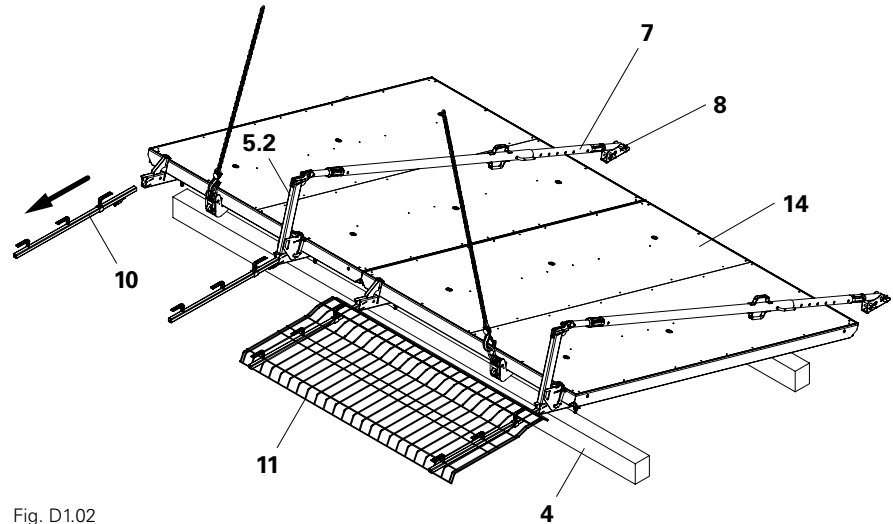
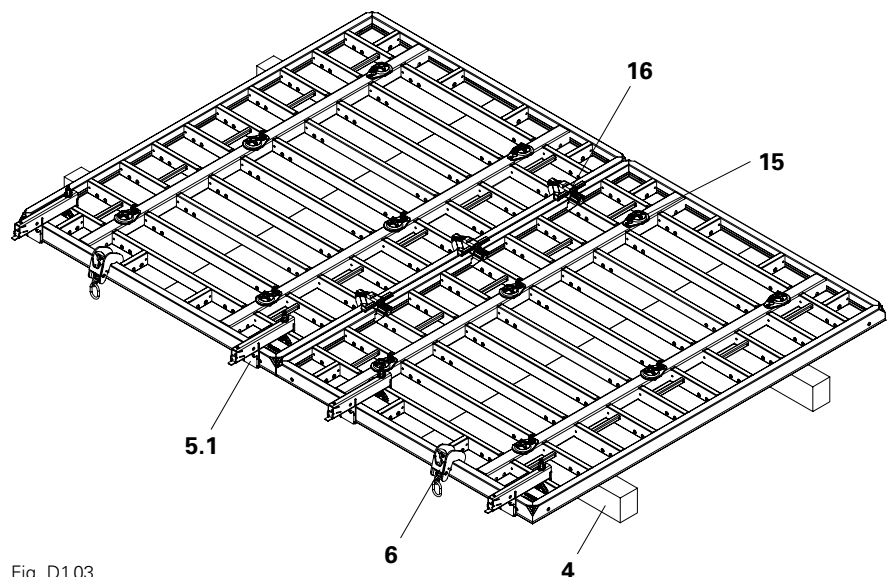

Fig. D1.02
Fig. D1.03
1. Set aside the formwork element (14) and carefully tip back.
2. Lower formwork element (14) to approx. 90 cm. Unhook side mesh barrier (11) and remove the guardrail posts (10).
3. Rest formwork element (14) on square timbers 20/16 cm (4).
- (Fig. D1.02)
1. Remove the push-pull prop (7).
2. Dismantle base plate (8) from push-pull prop (7).
4. Turn formwork element onto form-lining side and support with square timbers 20/16 (4).
5. Remove lifting hook (6), swivel nut MX 15 (15) and, if necessary, the alignment coupler BFD (16).
- (Fig. D1.03)